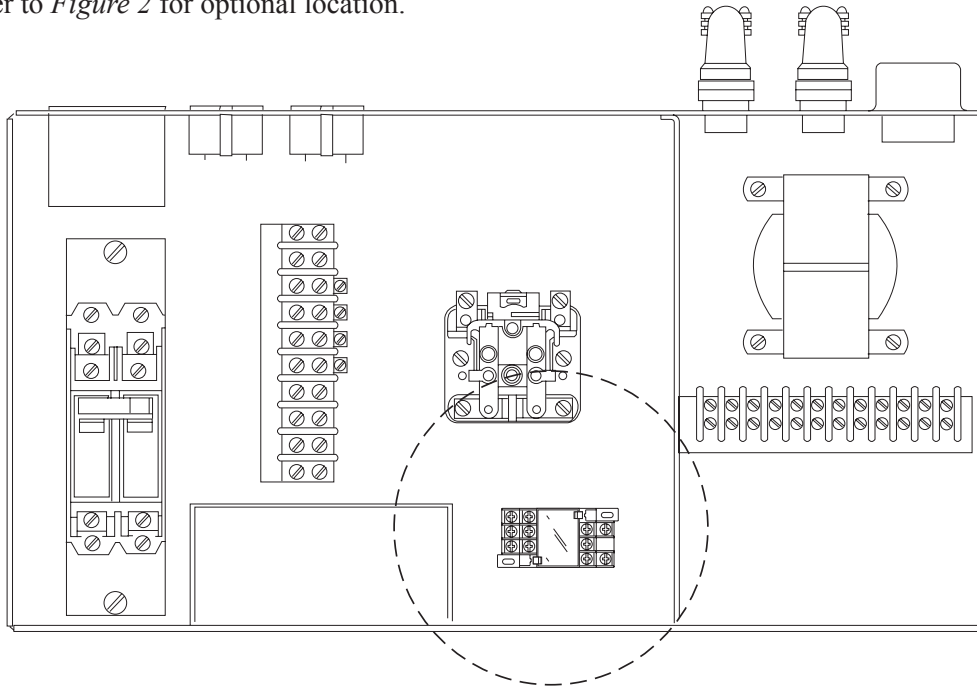

Figure 2.
- Determine a suitable location for the new relay base (P/N 11-696645-000) in the electrical box. Electrical components can vary in location within each box, it is important the base and wires do not interfere with other components, and the location allows for easy access to the new relay. Refer to *Figure 2* for optional location.